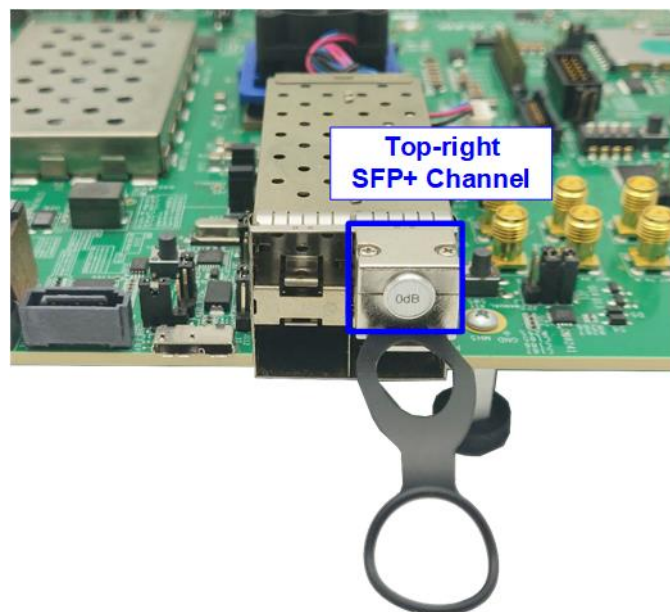

Figure 2-2 Loopback cable on ZCU102 board
- 4) Connect SFP+ Loopback cable at the top-right SFP+ channel, as shown in Figure 2-2.